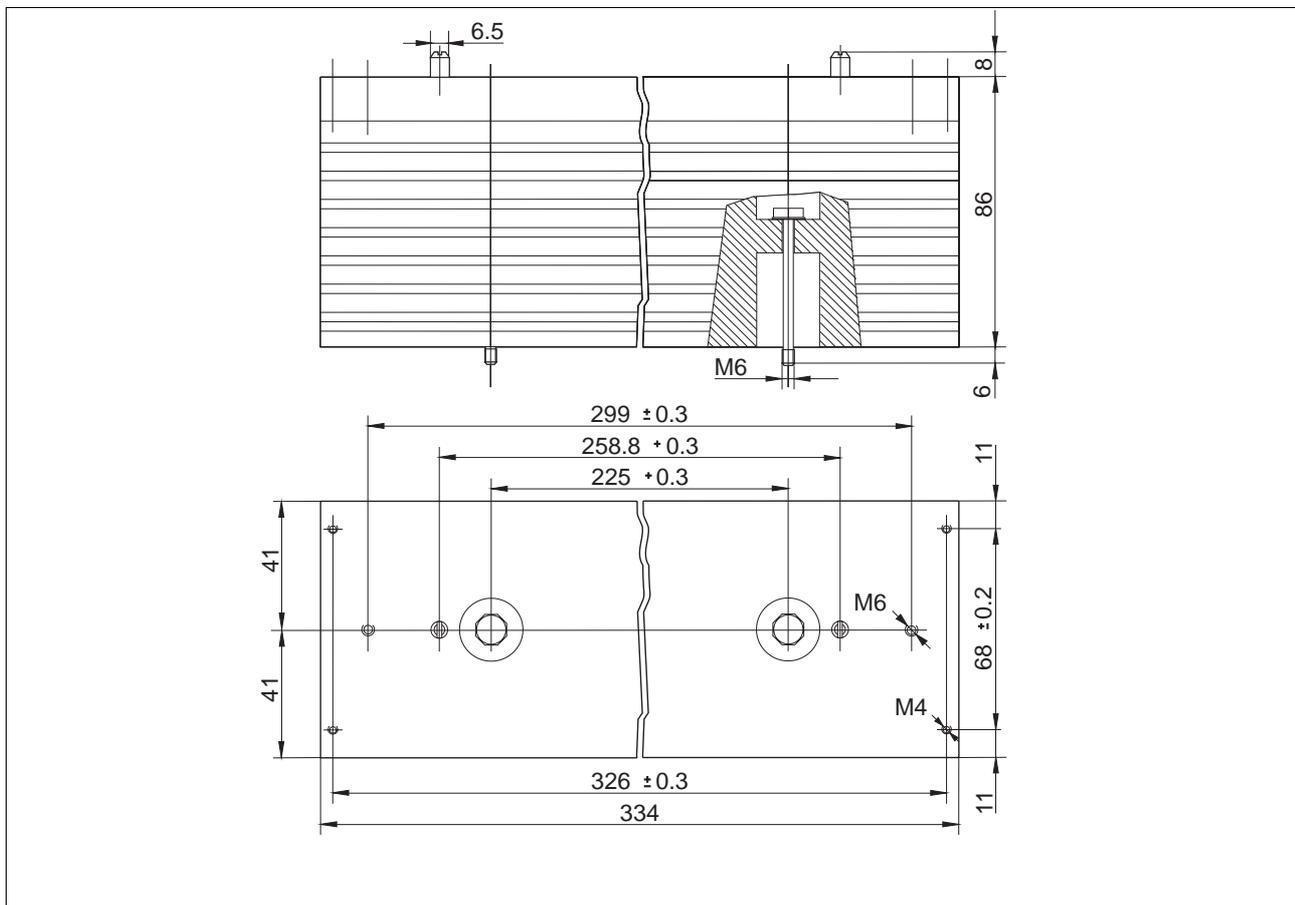

Bild 6-7 Abmessungen Kühlkörper
3. Attach heatsink with two screws (M6) (see figure 6-7) to the mounting wall.
5. Screw the heatsink with two screws (M6) onto the mounting wall (see figure 6-7).